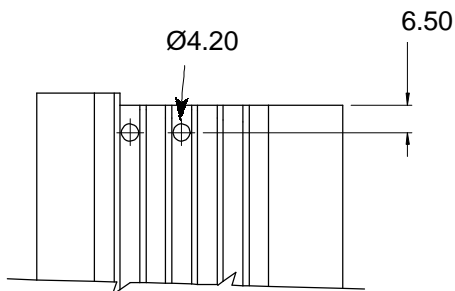

Fig.3.8.13
- If the brackets are required drill 2 clearance holes at each end, $\text{Ø}4.20$ as per fig.3.8.13. Positioning the holes in the pre-prepared end of the track are as pictorially shown. The holes in the customer prepared opposite end, may vary in track location, so as to clear drainage slots.